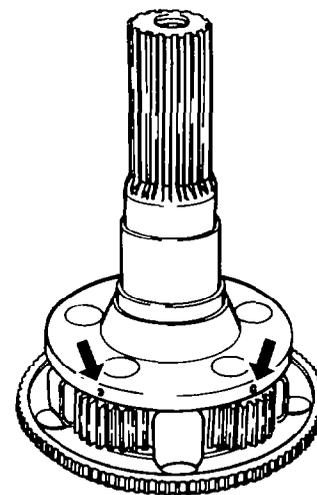

Figure 28 Planetary Gear Shafts Grub Screws
- (1) Clean the assembly.
- (2) Remove the synchroniser (7) and the oil deflector plate from the assembly: remove the retaining circlip and ball bearing from the synchroniser: use a soft drift and hammer to remove the bearing, if necessary.
- (3) Remove the compensating shim (9) and spacer tube (11) from the assembly: remove the circlip securing the synchro-hub (12) to the annulus (14) and remove the synchro-hub from the assembly.
- (4) Fit soft jaws on a bench vice: clamp the assembly in the vice with the annulus dome (13) uppermost: remove the snap-ring (19) securing the dome to the annulus: use a soft headed hammer to knock the dome downwards off the annulus.
- (5) Remove the planetary gear carrier (17) from the annulus: remove the retaining circlip (16) and remove the ball bearing (15) from the annulus: a soft drift and hammer may be used to drive the bearing from the annulus, if necessary.
- (6) The shafts that carry the planetary gears are locked in position by grub-screws, located in the carrier flange (see Fig 28): remove the grub-screws; use a soft drift and hammer to remove the planetary gear shafts from the carrier: remove the planetary gears, tab-shims and friction washers.
- (7) Remove the needle rollers from inside the planetary gears; clean and inspect all components, replace any worn or damaged components.